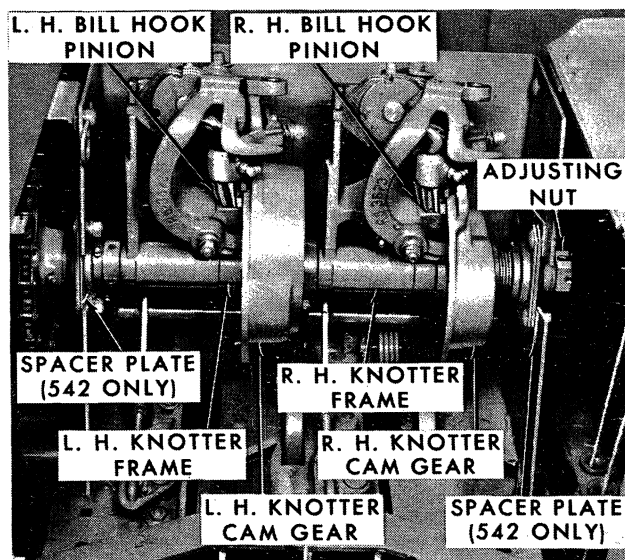

Figure 5
14. Position the assembled knotter shaft between the knotter housing side plates, Figure 5. Bolt the flange of each bearing to the left-hand side of the plates as shown.
IMPORTANT: Series 542 Hay Balers Only: Be sure to install the 0.100" spacer plates between the bearing flanges and the knotter housing plates as shown in Figure 5. The plates compensate for the variance between the Series 532 and Series 542 bale chamber widths.